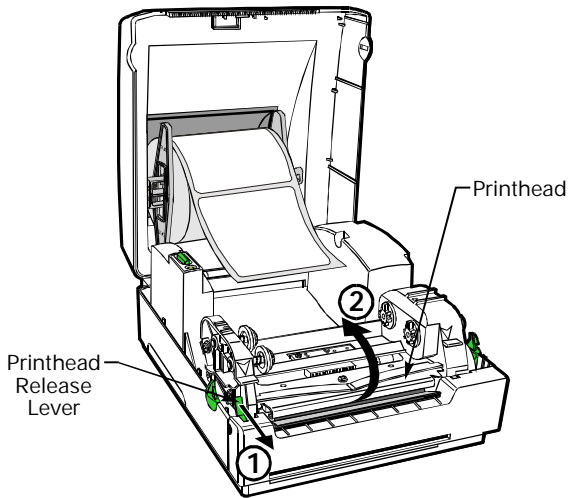

Figure 6
6. Place the media roll in the top cover (refer to Figure 6).
7. Release the printhead by pulling the printhead release lever toward you (refer to Figure 6, “1”).
8. Lift the printhead (refer to Figure 6, “2”) until you feel it “lock” into place. Be careful not to force the printhead past this position!